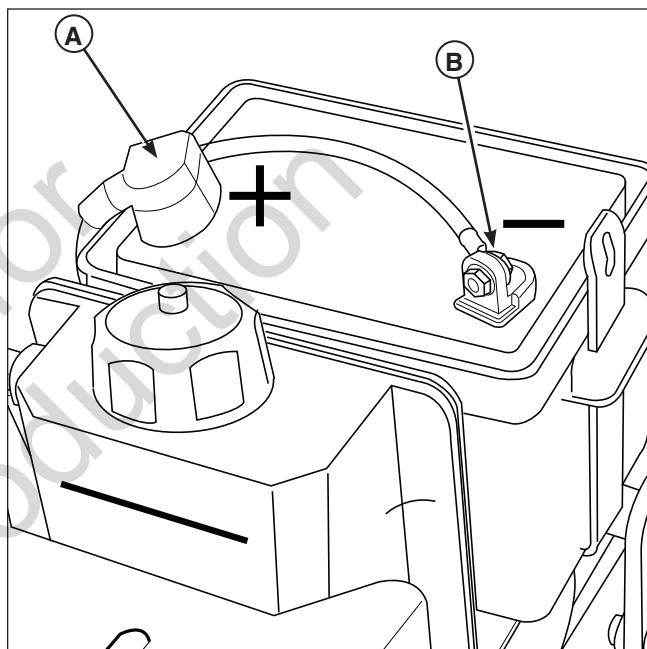

Figure 11. Battery Compartment
1. Disconnect the cables from the battery, negative cable first (B, Figure 11).
3. Reinstall the battery and reattach the battery cables, positive cable first (A)